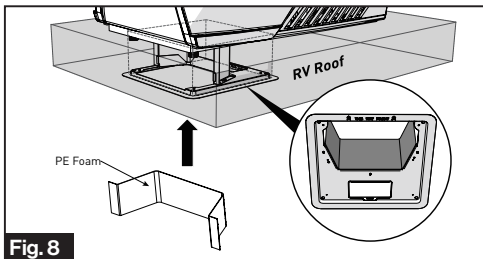

Fig. 8
7. Peel to remove the release paper from the PE foam, overlap the sticky side over all gaps and compress to seal and insulate the entire section. (Fig. 8)